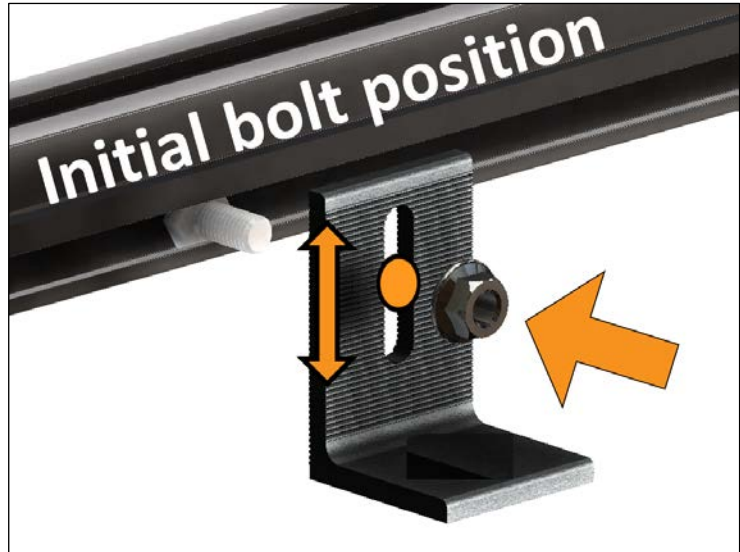

Fig. 8
**Best Practice:** Position each bolt at the midpoint of the vertical slot in its L-foot (Fig. 8). This will provide the greatest vertical adjustment flexibility.